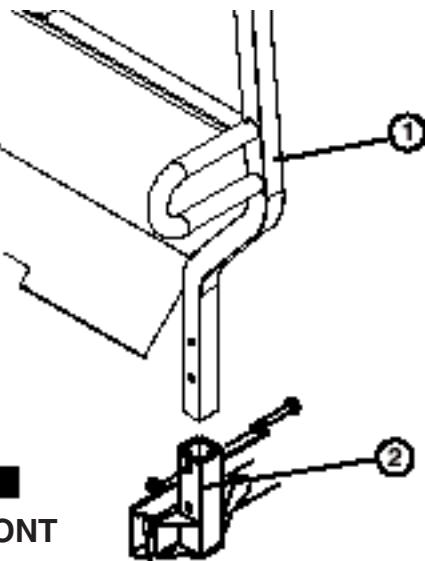

Figure 6
Install the Roll-Over Protection System (Fig. 6)
- Insert each side of the system into the mounting bracket on each side of the vehicle frame, positioning the protection system as shown in figure 6.